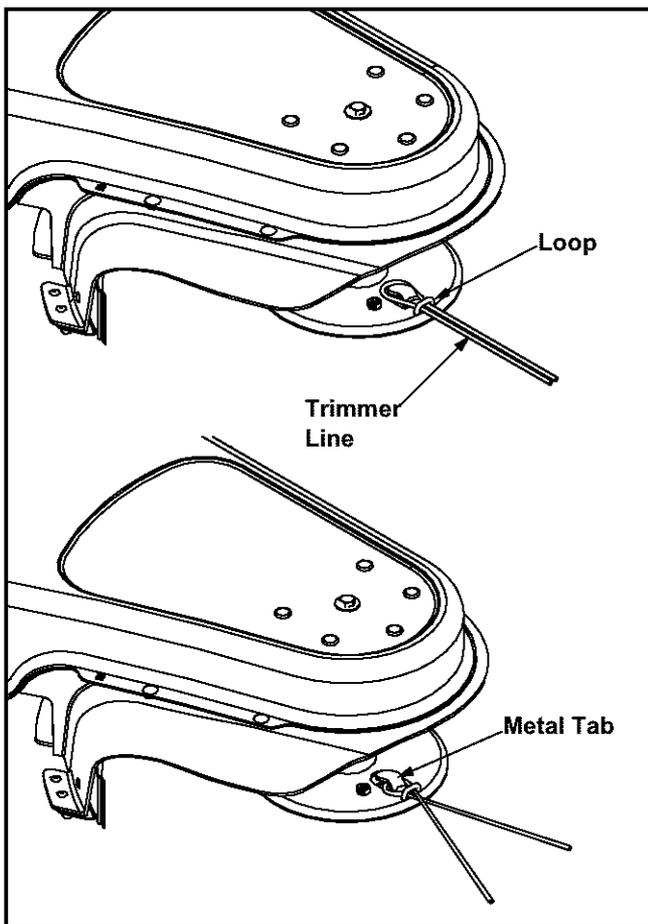

Figure 9
- Fold new trimmer line in half and thread the ends of line through the loop from the inside out without going all the way through the loop. See Figure 9.
- Slide the loop end of the trimmer line under the metal tab and secure in place by crossing and pulling tight on the ends of the line. See Figure 9.